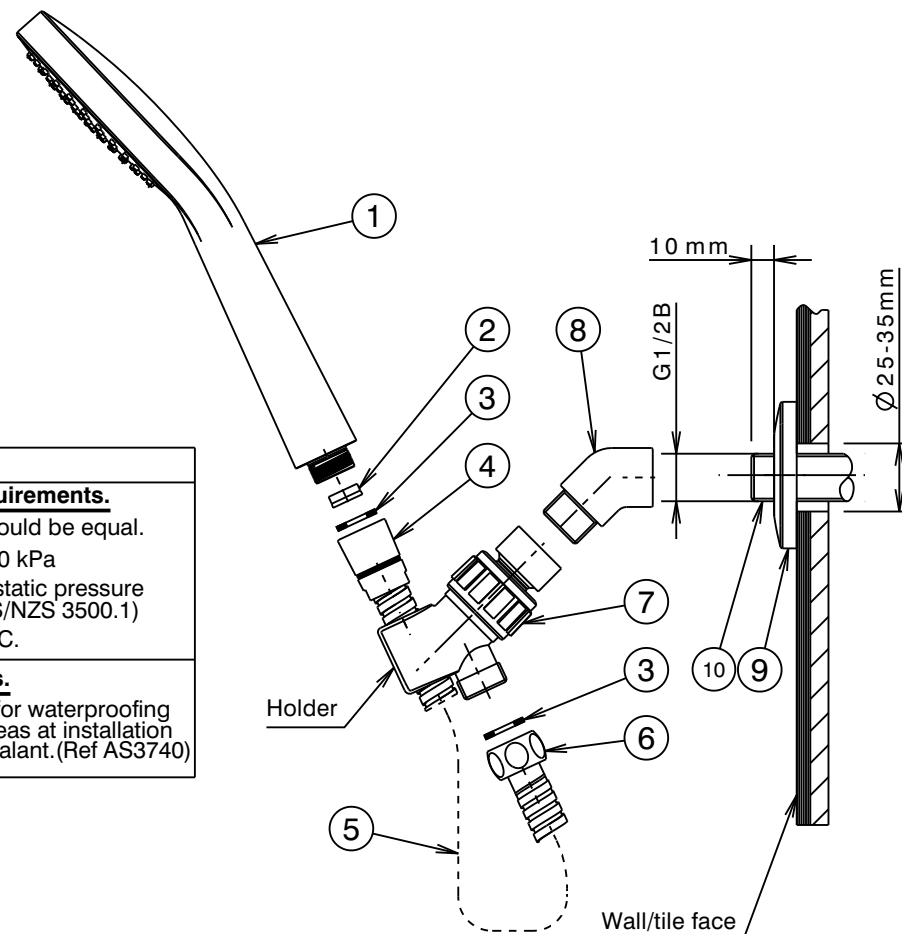

Fig. 1
- * Hand Shower (1) is fitted with flow regulator (2). This lower flow rate may not be suitable for connection to some gravity fed Water Heaters, low pressure supply networks, Instantaneous Water Heaters, Tempering Valves, Solar Water Heaters & Thermostatic Mixing Valves. Check with the manufacturers of these products. Note: Warranty is void if flow regulator (2) is not installed as shown.
- * Inlet adaptor (8) must be installed in the position as shown in Fig.1.